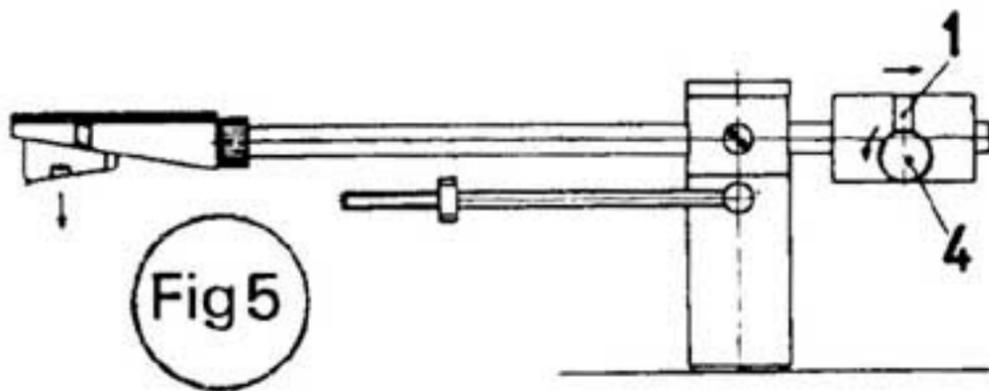

Fig 5
- 1 Place the pick-up arm on a table (see Fig 5) adjust the knurled wheel on the counterbalance weight until the pick-up arm remains horizontal.
adjustments to the counterbalance weight shown in figures 5, 6, 7, 8 and 9.